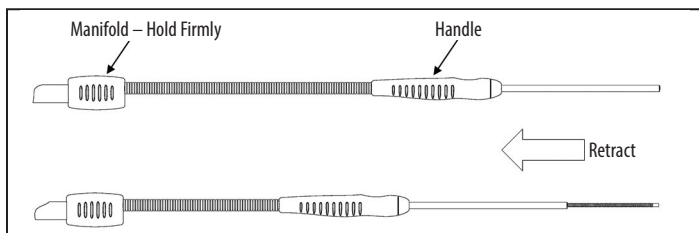

Figure 3: Handle and Rigid Shaft Retraction – Hold handle and manifold firmly while retracting rigid shaft.
2. Retract retractable handle and rigid shaft to expose malleable tip. See Figure 3: Handle and Rigid Shaft Retraction.